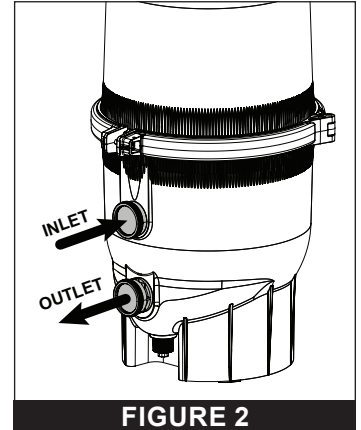

FIGURE 2
7. This filter has a different flow pattern than other Pentair D.E. filters (**FIGURE 2**). If replacing a filter or valve, verify flow pattern before permanently installing. Some compatible Pentair valves are: